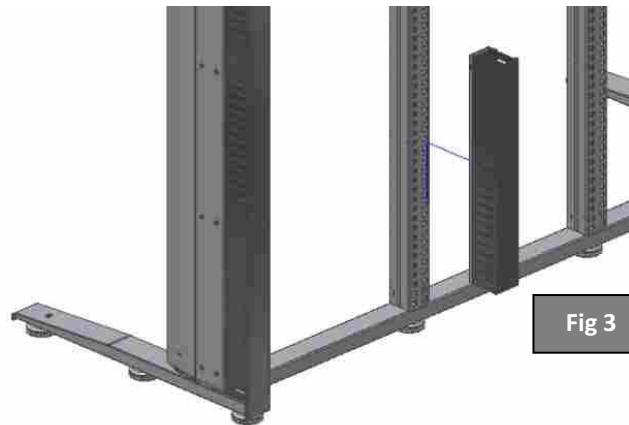

Fig 3
STEP 1 – Insert the hooks of the **duct** in the trapezoids of the **double grooved bars** (Fig. 3 and 4). Use a nylon mallet.